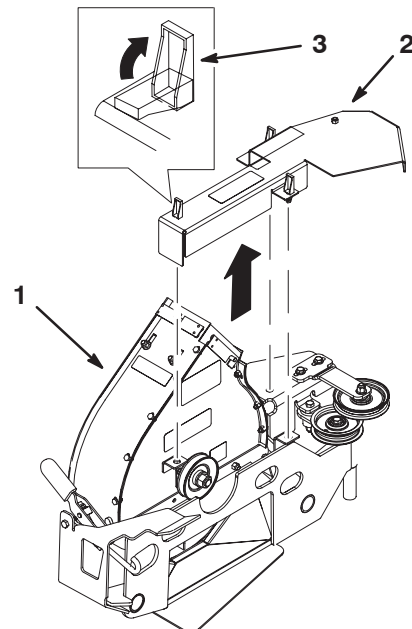

Figure 36
- Remove the blower belt cover (Fig. 36).